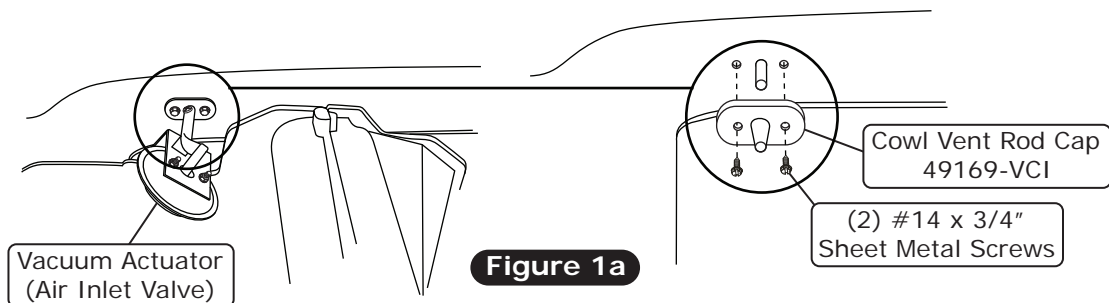

Figure 1a
9. Install the cowl vent rod cap and secure it using (2) #14 x 3/4" sheet metal screws as shown in Figure 1a, below.